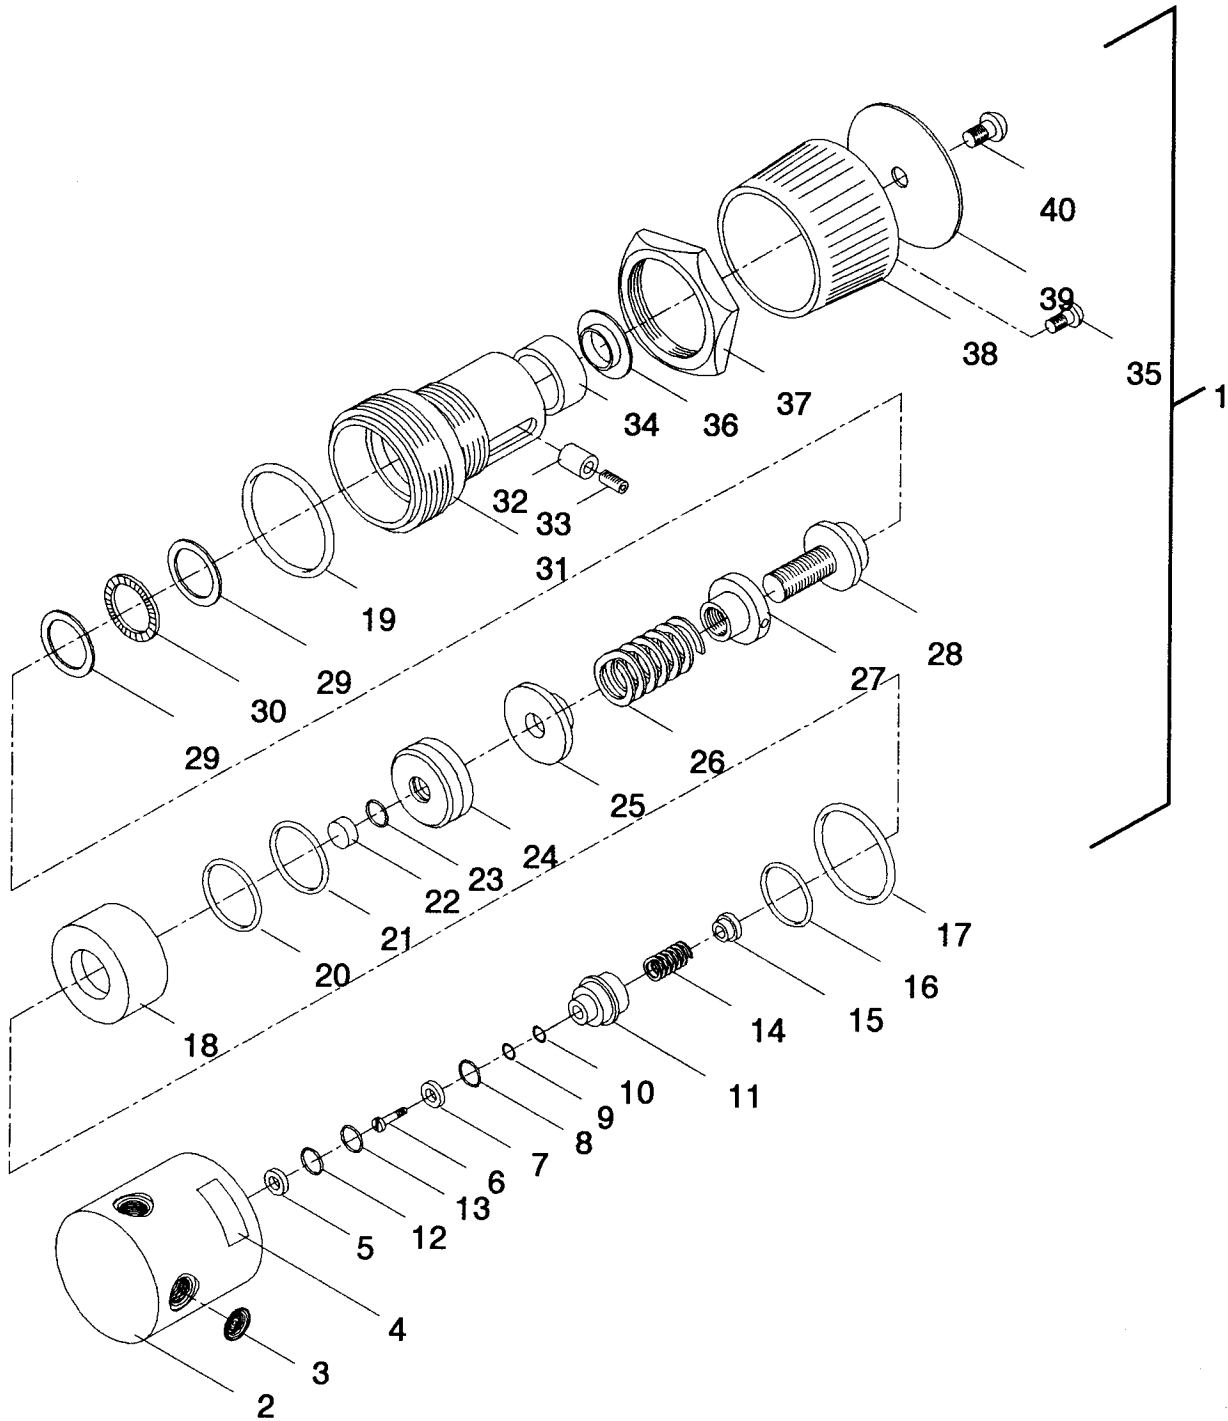

Figure 5-2. High Pressure Regulator (Item 1)
5-3. High Pressure (HP) Regulator (DACC) (CRS). See Figure 5.2